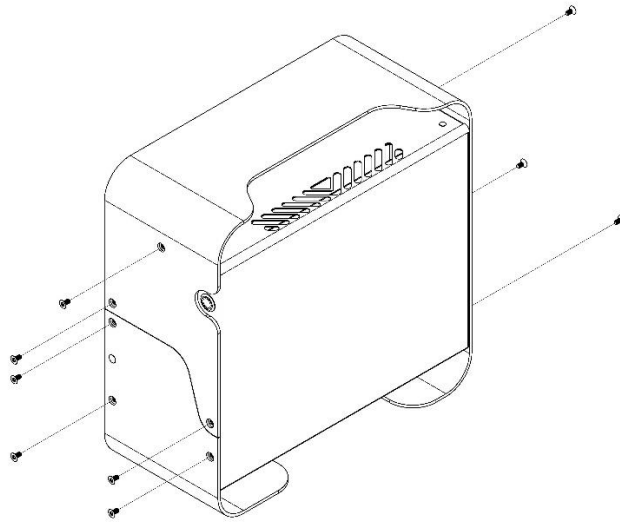

Figure 10
2.) Turn the unit upside-down so that the filter is facing up. Using a torx (star) bit screwdriver, remove the (9) screws holding the handle and filter door in place. See Figure 10.
- 12.) Slide handle and filter door back onto shell. Using a torx (star) bit screwdriver, tighten (9) screws holding handle and filter door onto shell. See Figures 10 and 11.
12.) Slide handle and filter door back onto shell. Using a torx (star) bit screwdriver, tighten (9) screws holding handle and filter door onto shell. See Figures 10 and 11.
8.) Slide handle and filter door back onto shell. Using a torx (star) bit screwdriver, tighten (9) screws holding handle and filter door onto shell. See Figures 10 and 11.